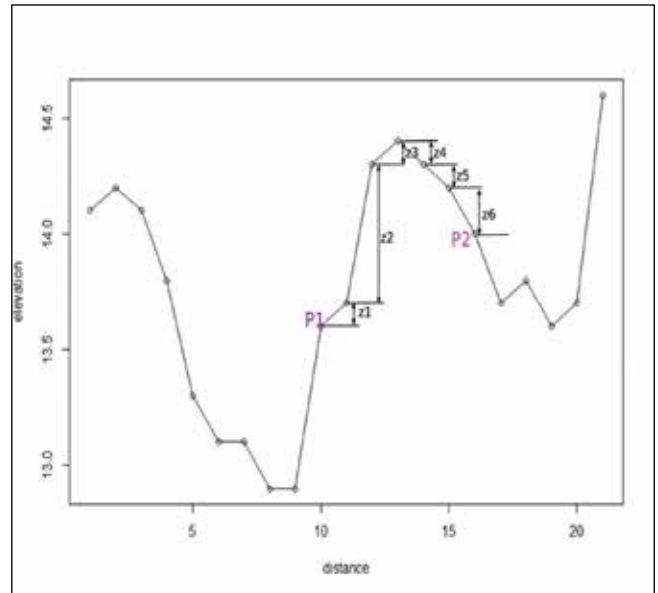

Figure 2. Concept of cumulative elevation difference
- 2 Sum of absolute elevation difference (Referred to as cumulative elevation difference): This parameter is illustrated in Figure 2.